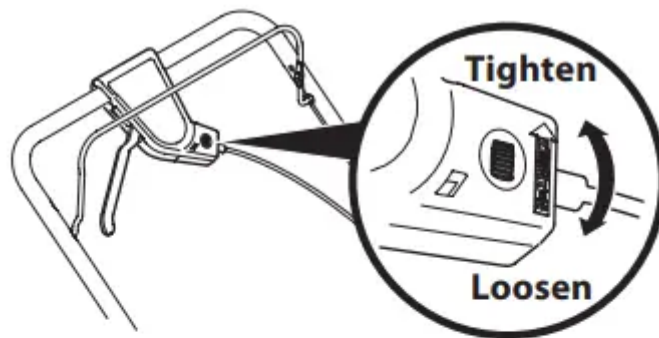
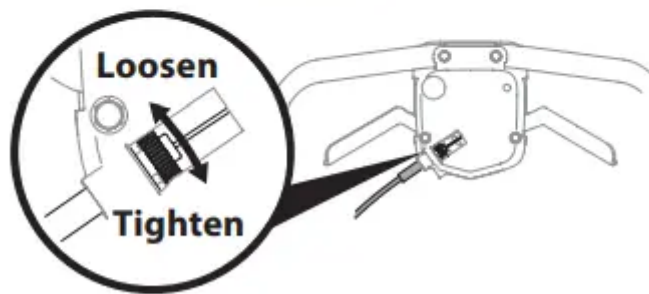

Figure 37
Figure 38
- If equipped, there is an adjustment wheel located in the drive control handle housing that is used to tighten or loosen the drive belt. You will need to adjust the drive control if the mower does not propel itself with the drive control engaged or if the mower's wheels hesitate with the drive control engaged. If either of these conditions occur, rotate adjustment wheel clockwise to tighten cable or counterclockwise to loosen the cable. See Figure 37 for location on Single Lever Drive Control and Figure 38 for Dual Lever Drive Control.